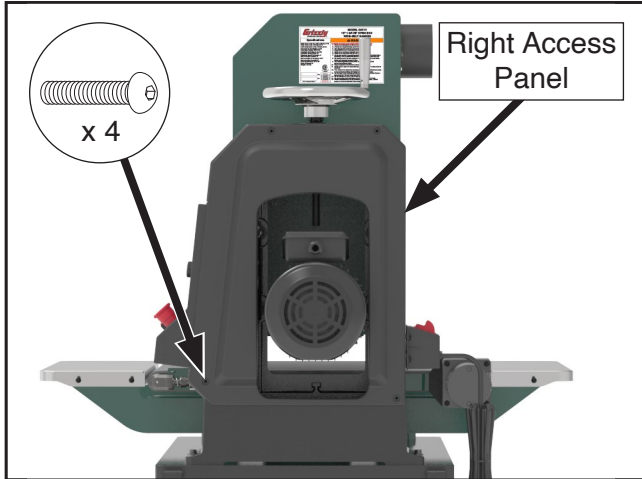

Figure 45. Location of right access panel and fasteners.
- Remove (4) M6-1 x 8 button head cap screws to remove right access panel (as shown in **Figure 45**).